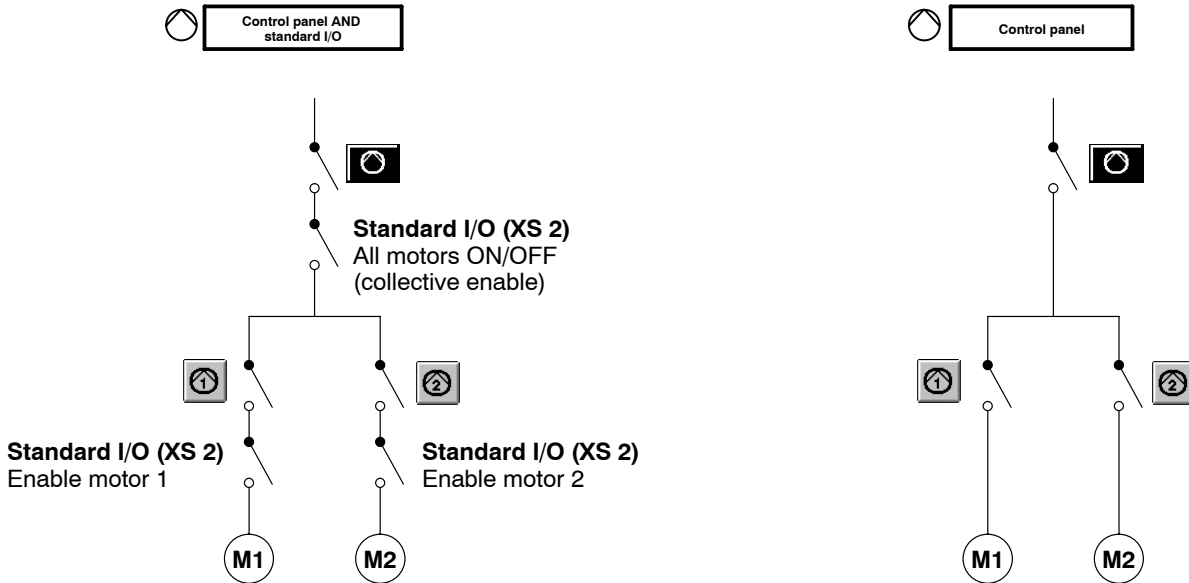

Fig. 4-7 Conditions for *Motor running* with and without interface *Standard I/O*
8. Enable the motor(s) (Fig. 4-7).
9. Switch on the motor(s) (Fig. 4-7).